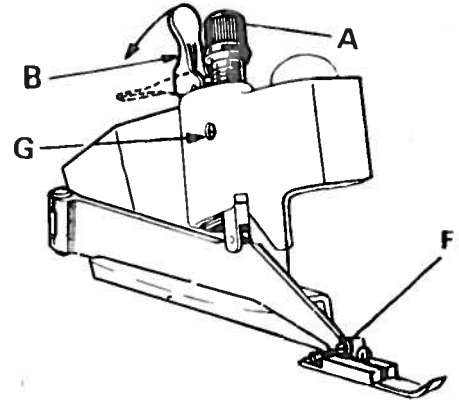

fig. 22
4. Press lever B right down (fig.22)
#### c) Positioning and adjusting presserfoot pressure (fig. 22)